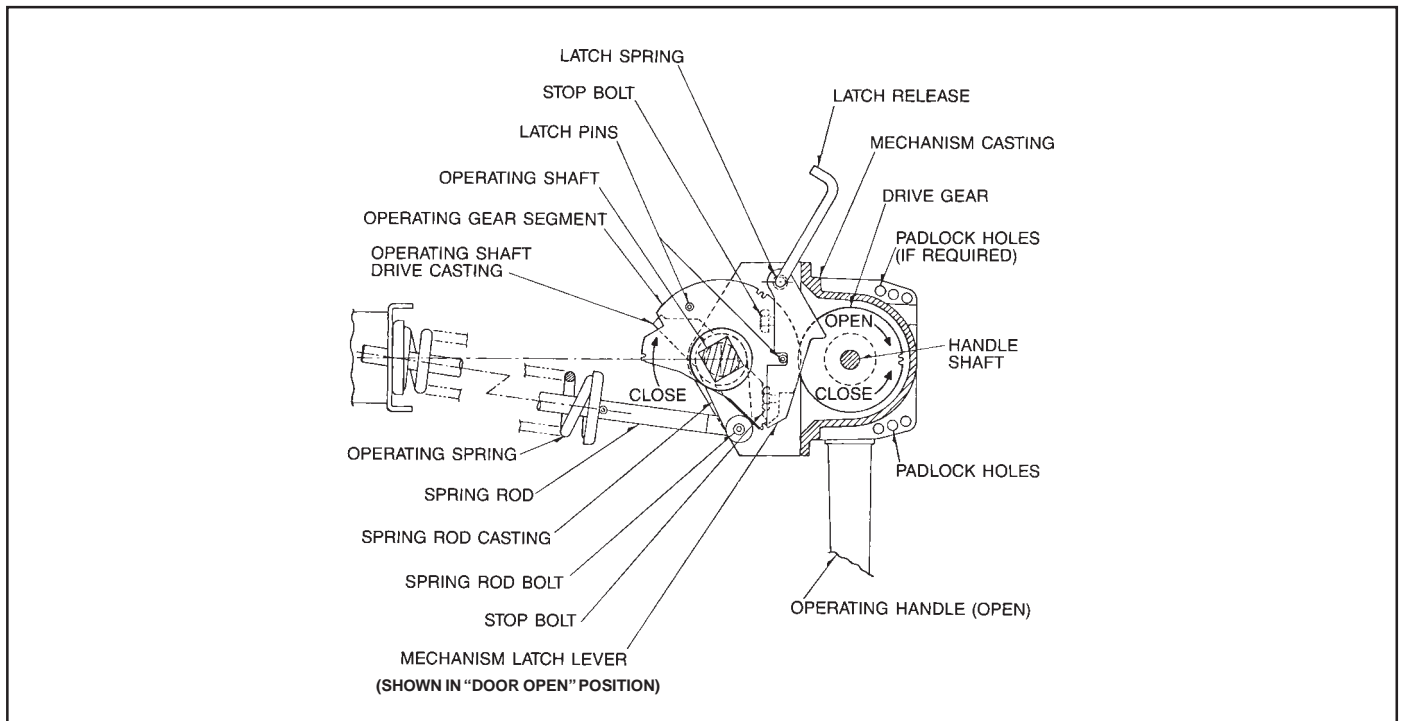

Fig. 3 Operating Mechanism in the OPEN position.
When the enclosure door is open, the latch spring rotates the mechanism latch lever into its engaged position and a notch in the mechanism latch lever engages a pin projecting from the side of the operating gear segment, as shown in Figure 3. This prevents the switch mechanism from opening or closing. When the enclosure door is closed, it pushes the latch release lever to rotate the mechanism latch lever out of engagement with the latch pin to permit the switch mechanism to operate. This interlocking feature may be deliberately defeated by qualified personnel by manually pushing the latch release lever inward to simulate the door being closed.
- (a) Be sure the operating handle is latched in the OPEN position by the door interlock latch as shown in Figure 3.
1. Check the operating shaft stop locations. Readjust using the stop bolts shown in Figures 3 and 4 to achieve the following: